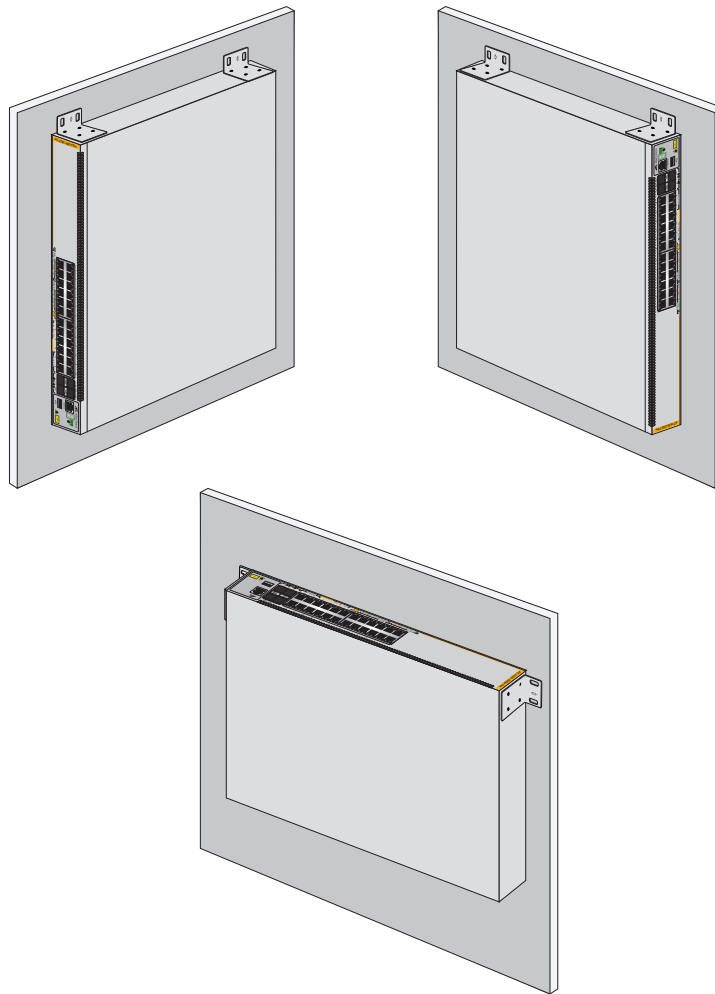

Figure 29. Positioning the x530-28GTXm Switch on the Wall
- ❑ Install the x530-28GTXm switch on a wall with the front panel facing up, left or right, as shown in Figure 29. Do not install the switch with the front panel facing down.
- Position it so that the front panel is facing up, left or right. Refer to Figure 29 on page 76. Do not install it with the front panel facing down.